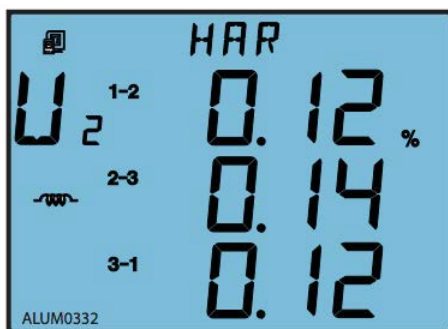

Fig.3-34 2nd harmonic content of line to line voltage
**Note:** When voltage wiring of the meter is set to 2LL or 3LL, line to line voltage harmonic contents will be display instead (as shown in Fig. 3-34).
As shown in Fig.3-34, U12\_Hr2=0.12%, U23\_Hr2=0.14%, U31\_Hr2=0.12%.